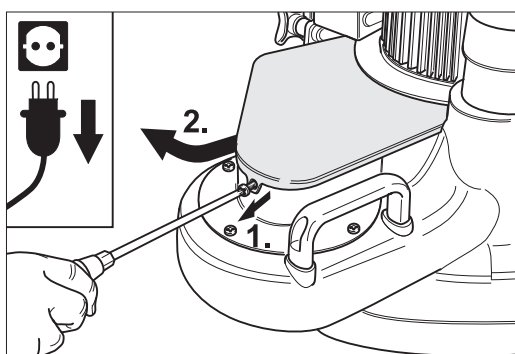

Fig. 46 Remove the V-belt guard fixing screw and remove the V-belt guard.
- 9 Remove the screw which fixes the V-belt guard to the flange of the fan insert (Fig. 46).
- 10 Pull V-belt guard from its slot in the flange and put it aside (Fig. 46).